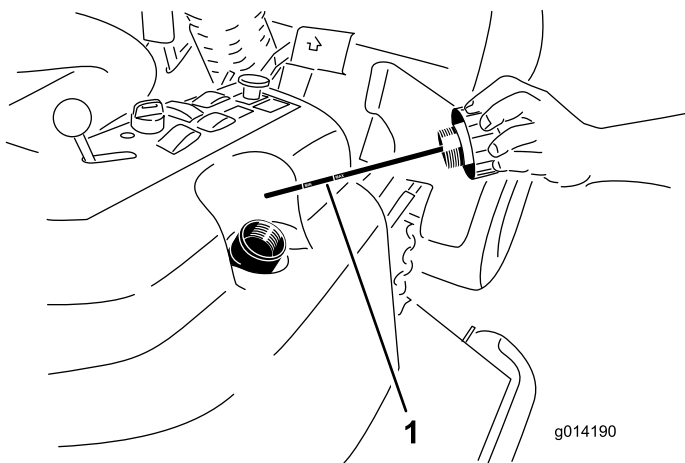

Figure 66
- Remove the hydraulic fill cap (Figure 66) from filler neck.
- Remove the dipstick and wipe it with a clean rag (Figure 66).
- Screw the dipstick all the way into the filler neck; then remove it and check level of fluid (Figure 66).